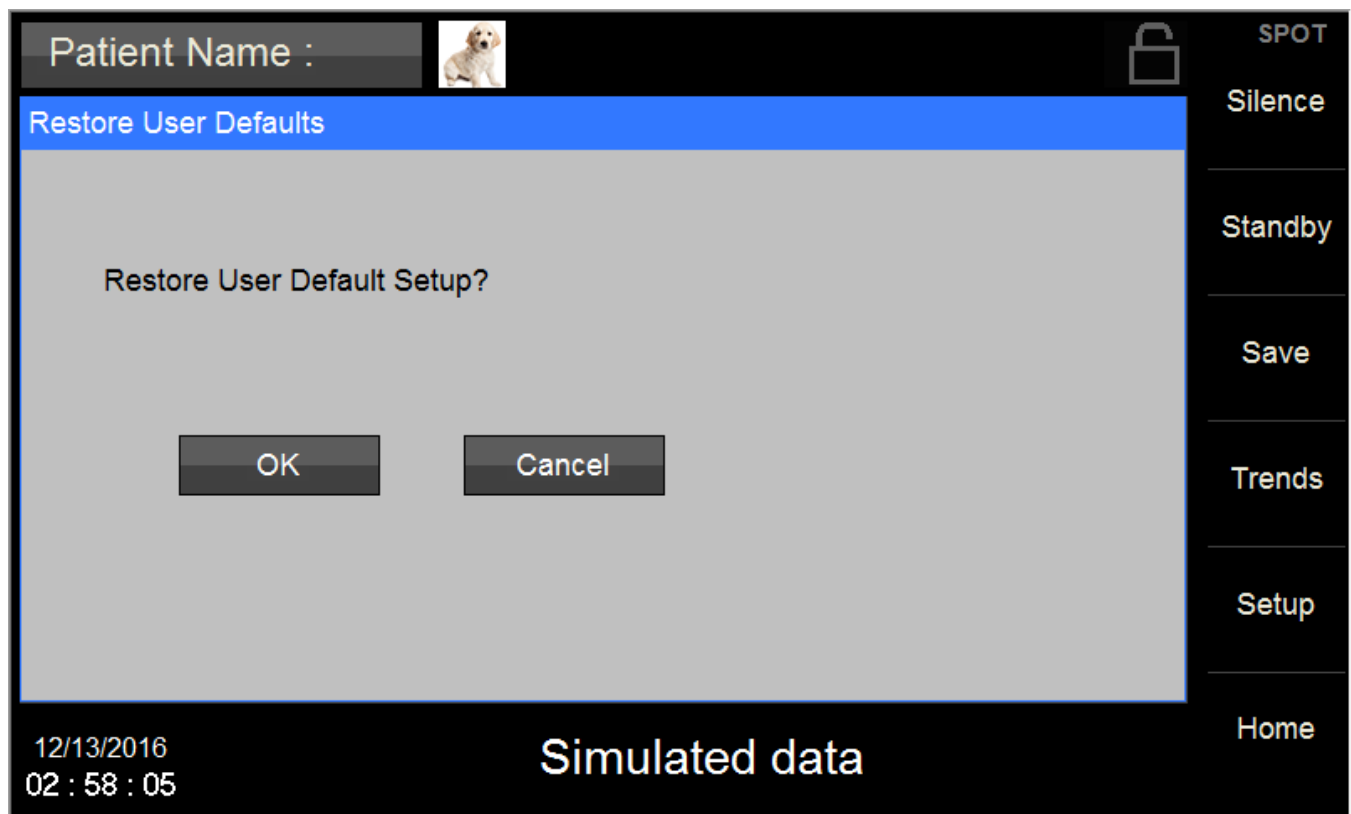

Figure 39: Restore User Defaults Screen
- 2) Press Restore User Defaults to restore the default values (refer to Figure 39).